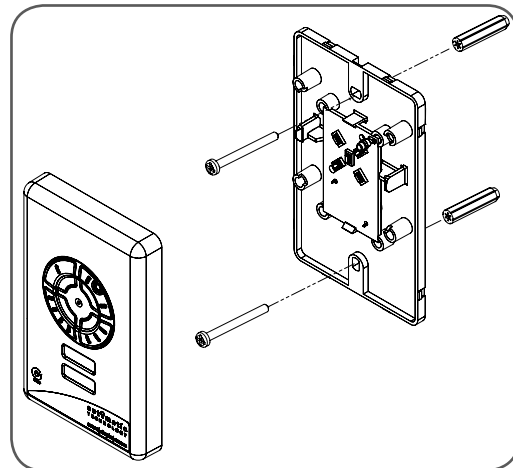

fig 38
- Affix the baseplate in a convenient wall location that is out of reach of children and convenient to the customer (**Fig 38**). Make sure the door is visible from this location.